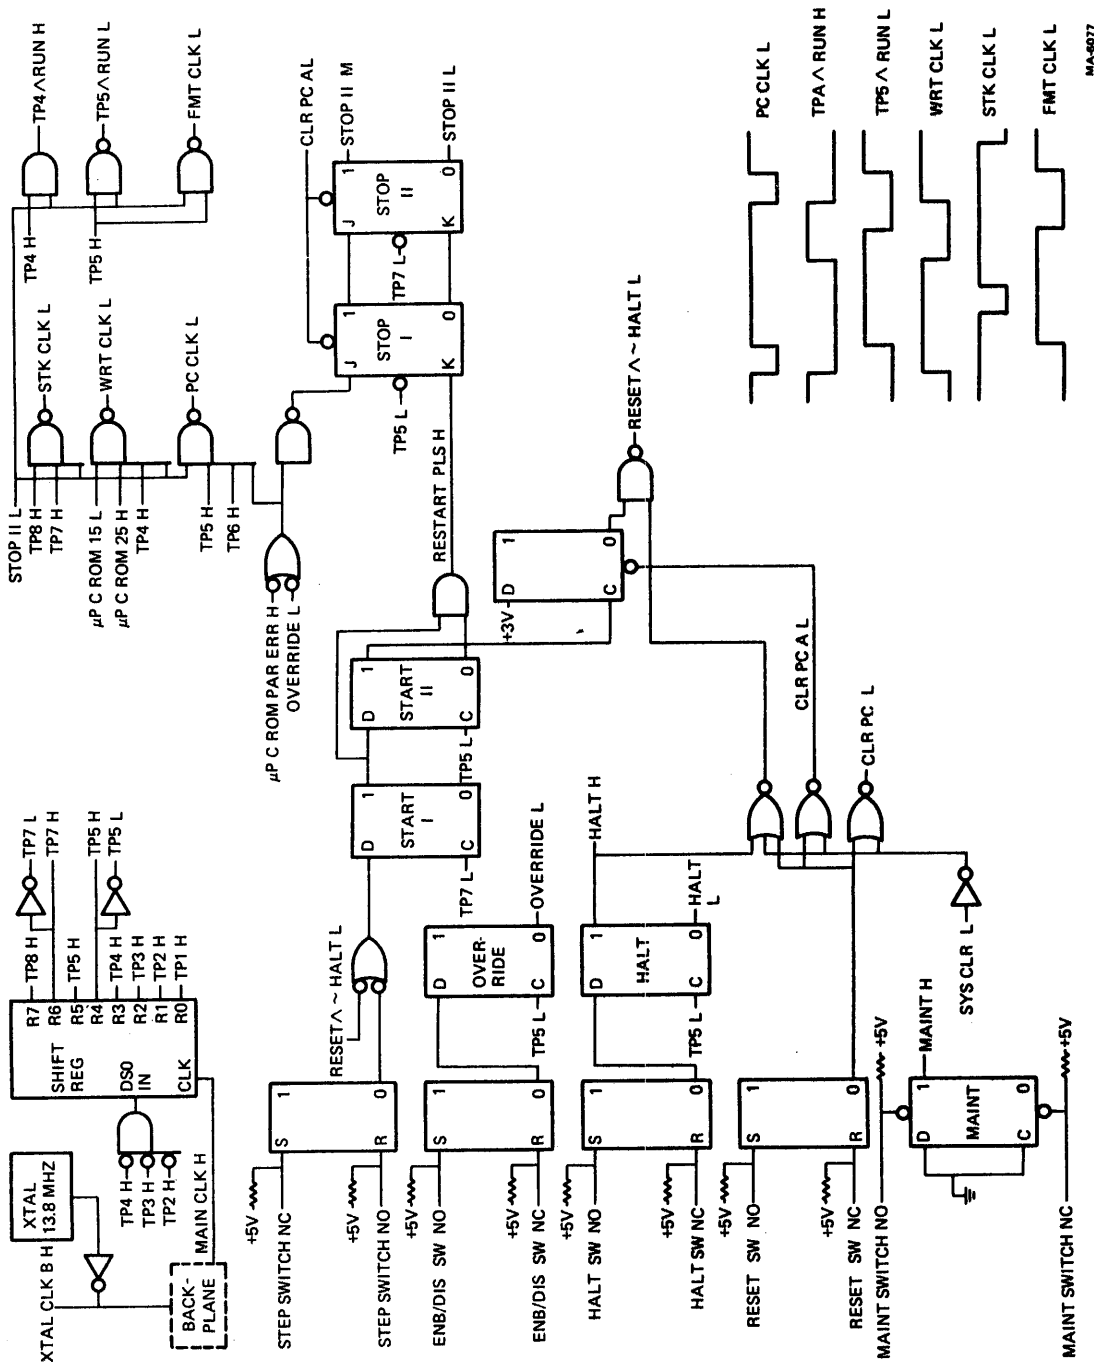

Figure 6-7 Clock Generator and Control Logic
6.3.2.4 Clock Generation and Control (Figure 6-7) – The clock generation and control logic are responsible for generating and controlling the timing signals used throughout the subsystem. Figure 6-7 is a simplified logic diagram of the circuits used to control and generate these timing signals.
The crystal oscillator (top left of Figure 6-7) operates at 13.8 MHz. Its output leaves M8962, is routed through the backplane, and reenters M8962 as MAIN CLK H. (MAIN CLK H also goes to the I/O section.)
The signals from the shift register are sent to a set of six AND/NAND gates (top right of Figure 6-7) where they are combined with STOP II L, CROM control signals, and each other. The outputs of these gates control the timing of the μ P and its buses.
SYS CLR L and the output of the flip-flop reset by the RESET switch are applied to three NOR gates (bottom center of Figure 6-7). The output of all three NOR gates go low. CLR PC L clears the PC. CLR PC A L directly sets the stop I and stop II flip-flops and directly resets the D type flip-flop feeding the RESET AND NOT HALT NAND gate. This enables the top input to the NAND gate. The bottom input of the NAND gate is held low while the RESET or SYS CLR L signals are active. When these signals go low (and the HALT switch is not set), the bottom input goes high and causes RESET AND NOT HALT L to go low.